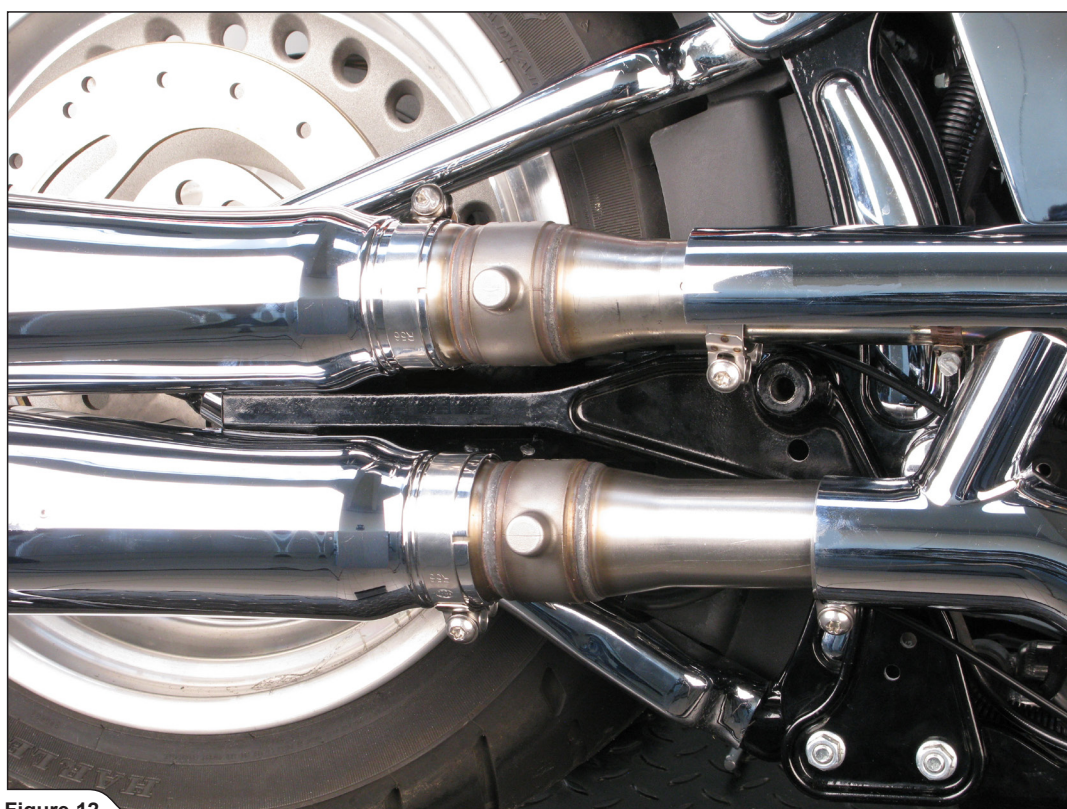

Figure 12
12. Install the assembled mufflers back onto motorcycle and **hand tighten** all bolts (**Figure 12**).